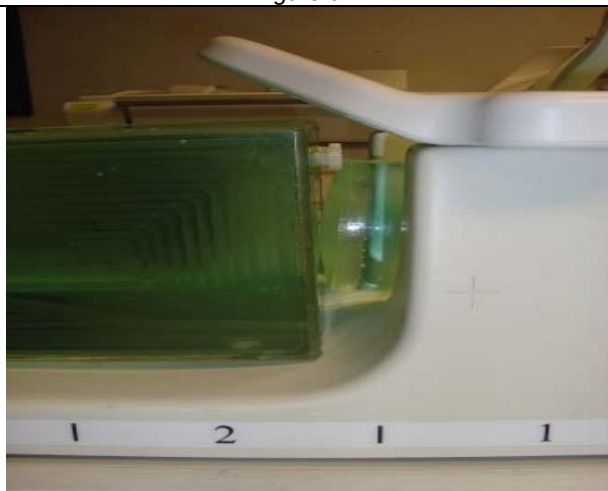

Figure 0-5
5. Adjust the large cylindrical unified phantom such that it is in complete contact with the TL unified phantom (Figure 0-5).